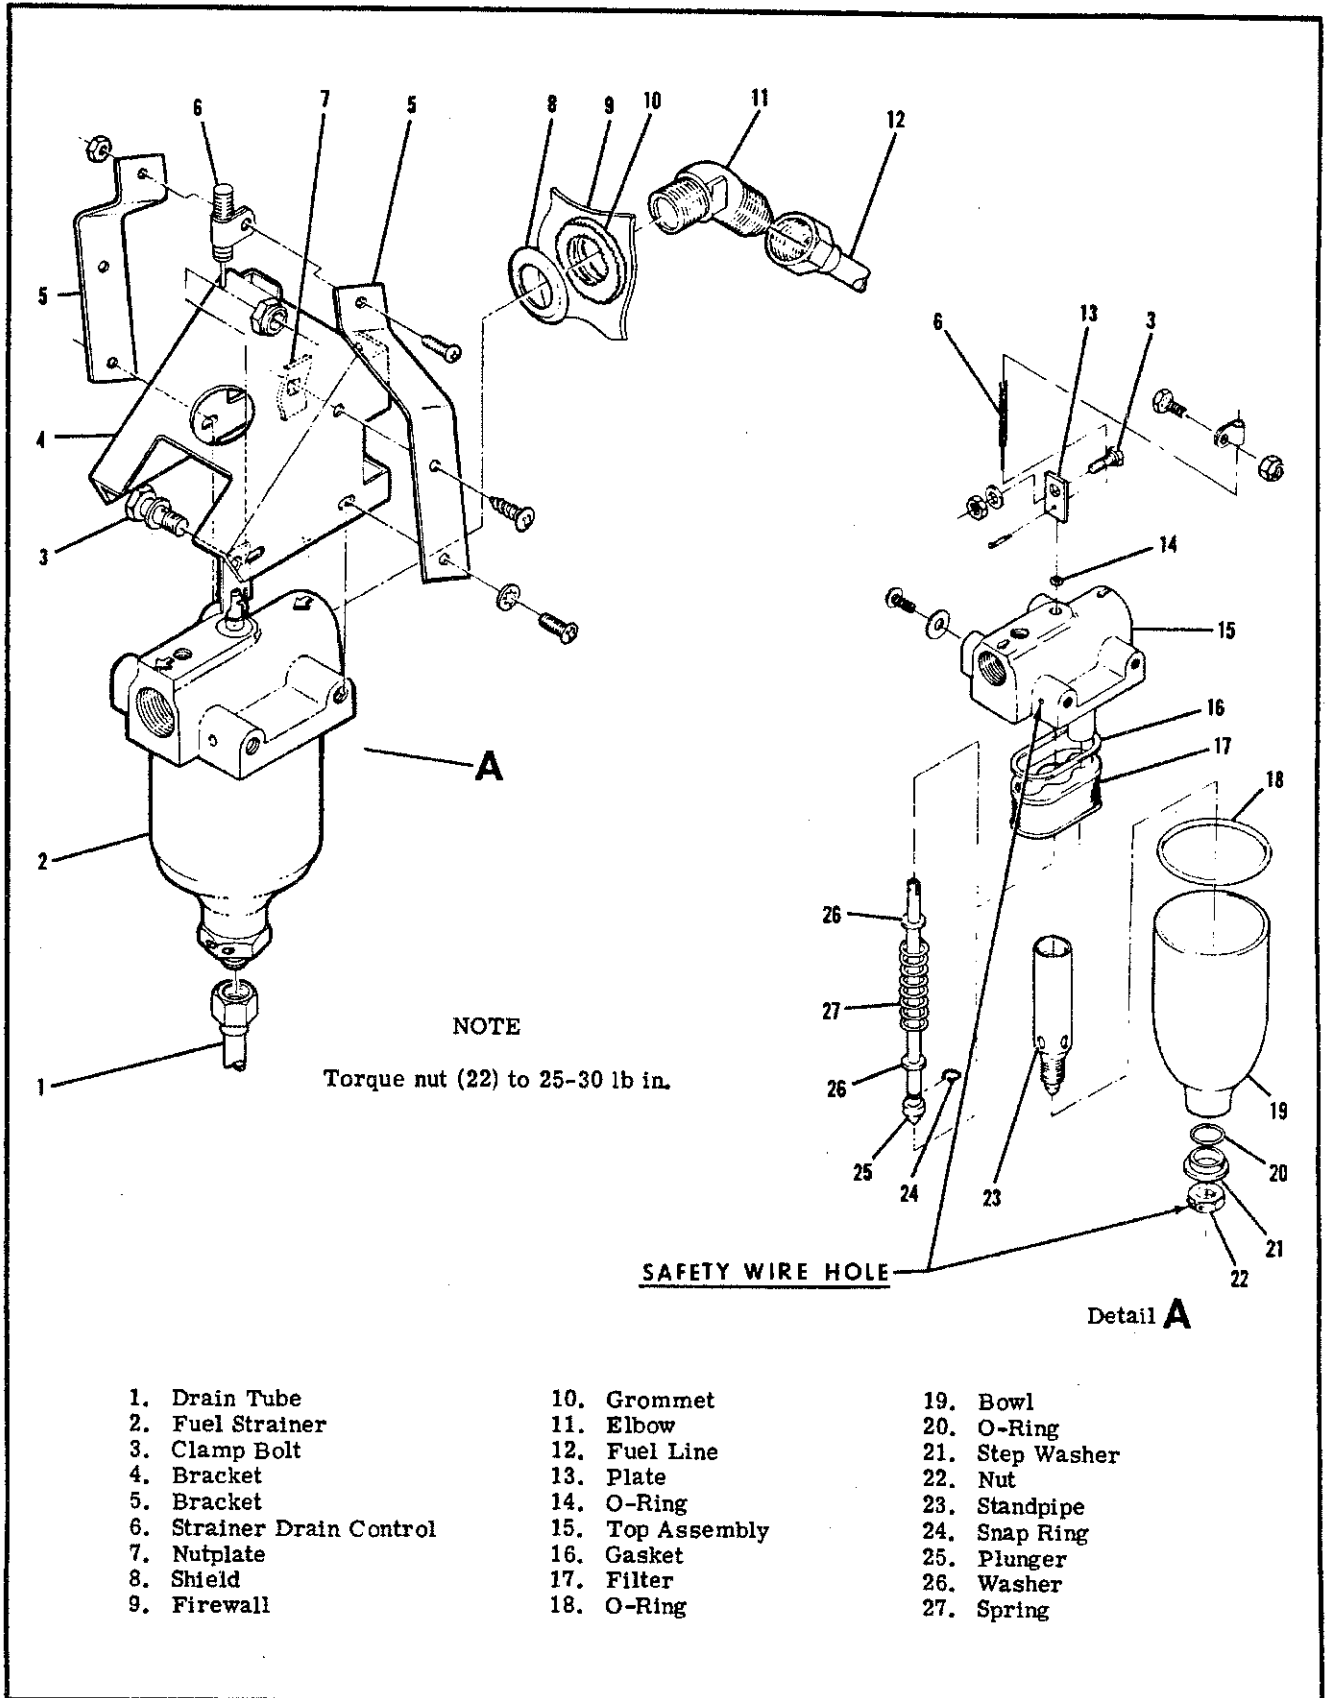

Figure 12-6. Fuel Strainer
**12-15. FUEL STRAINER.** (See figure 12-6.)
**12-17. REMOVAL AND INSTALLATION.** (See figure 12-6.)
**12-18. DISASSEMBLY AND ASSEMBLY.** (See figure 12-6.)